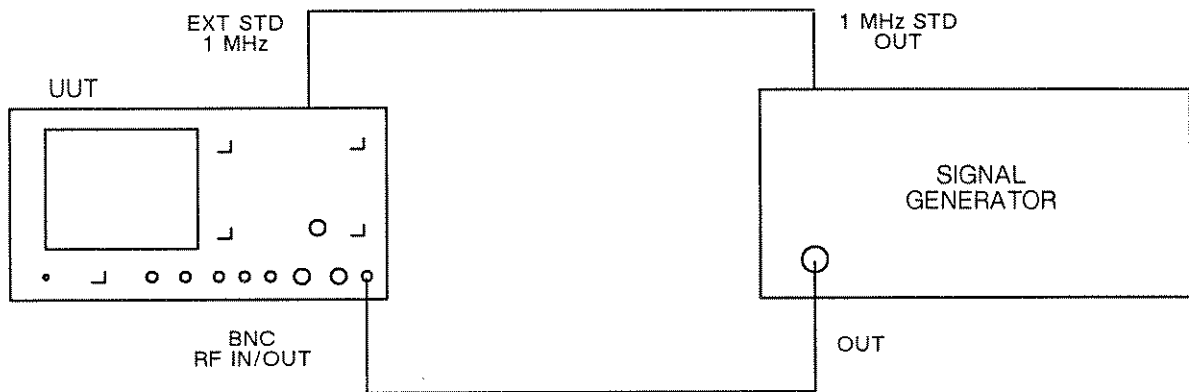

Fig. 5-9 Test equipment connections for RF frequency meter accuracy
- (1) Connect the equipment as shown in Fig. 5-9.